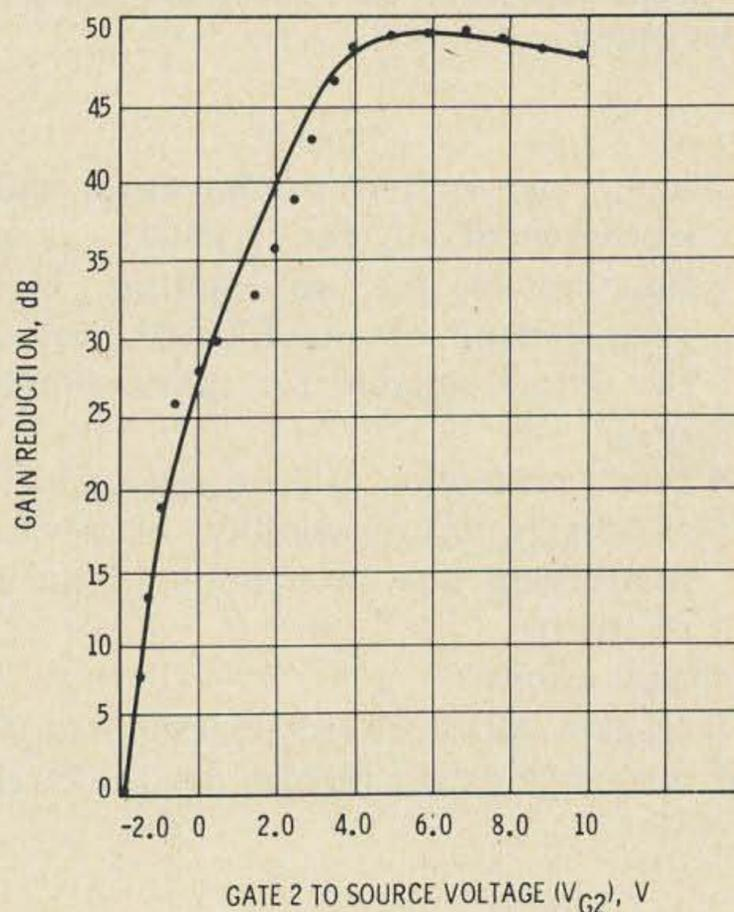

Fig. 2. Agc performance of the FT0601 ($V_D = 15V$, $F = 200$ MHz).
- Excellent agc performance with an agc range of approximately 50 dB. This characteristic makes the device ideal for use in front-end applications. The agc range of Fairchild's FT0601 is shown in Fig. 2.